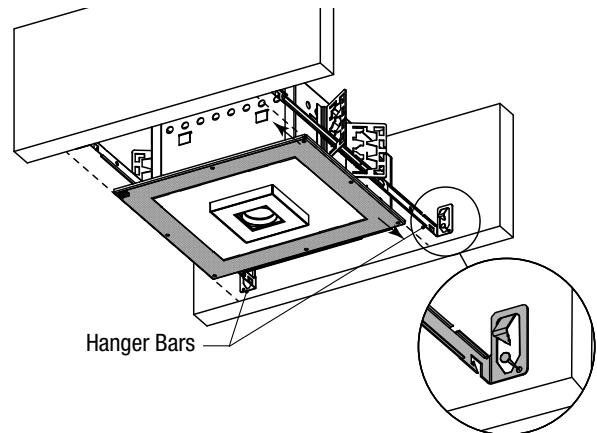

FIGURE 2
Step 1. Extend HANGER BARS to fit between joist and position mounting tab tight to joist or frame member **Fig 2**. Hanger bars should be level and at a height positioned to allow for finished trim to ceiling. **See Detail 2A**.